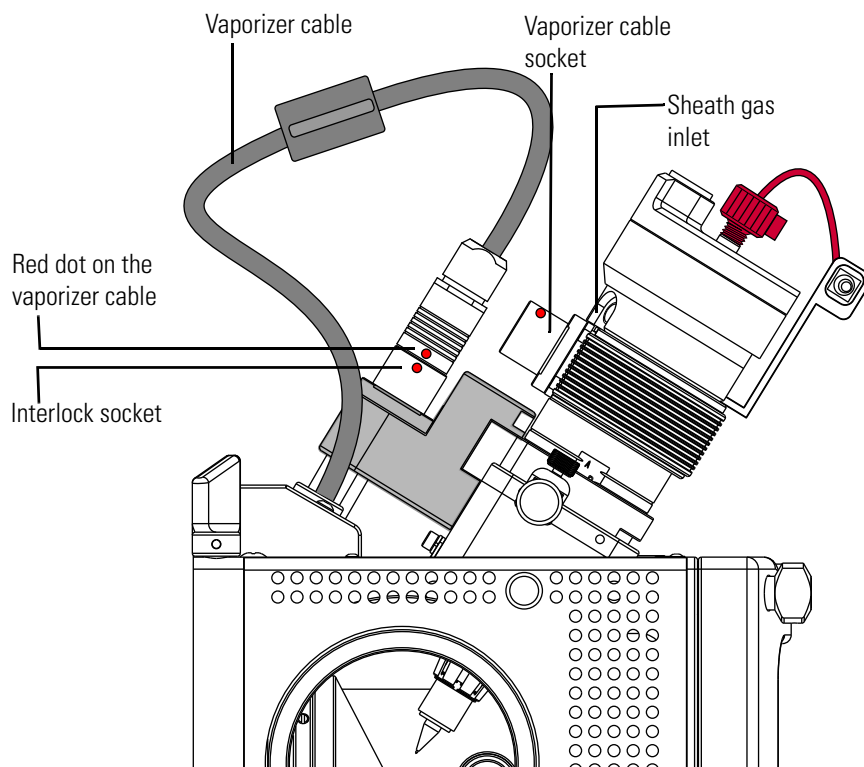

Figure 8-19. API source housing (left side view)
5. Connect the vaporizer cable to the interlock socket on the interlock block. To align the socket pins, align the red dot on the vaporizer cable connector with the red dot on the interlock socket (Figure 8-19).
connector with the red dot on the socket. Figure 8-19 on page 8-36 shows the red alignment dots on the connector and the socket.